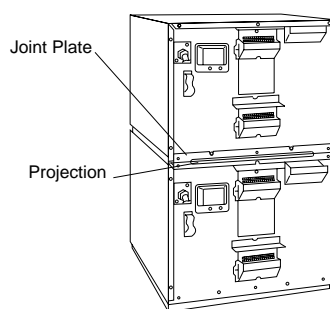

Fig. 2
4. Attach and tighten five screws (a) and the screw (b). See Fig.2.